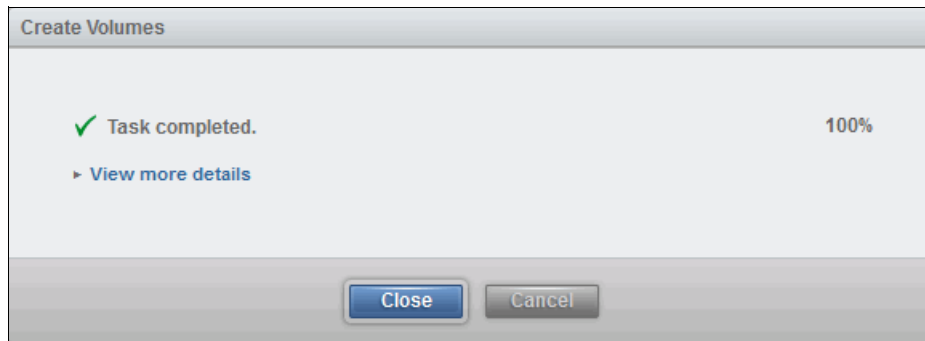

Figure 5-10 Completion of the Create Volumes wizard
- If you clicked **Create**, the wizard completes, as shown in Figure 5-10.